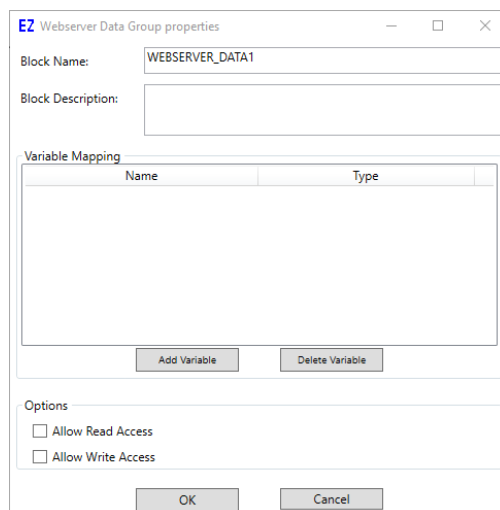

Figure 24-4
2. Locate the position in the ladder diagram where the function is to be added and click that position. The Webserver Data Group properties window will open. See Figure 24-4.